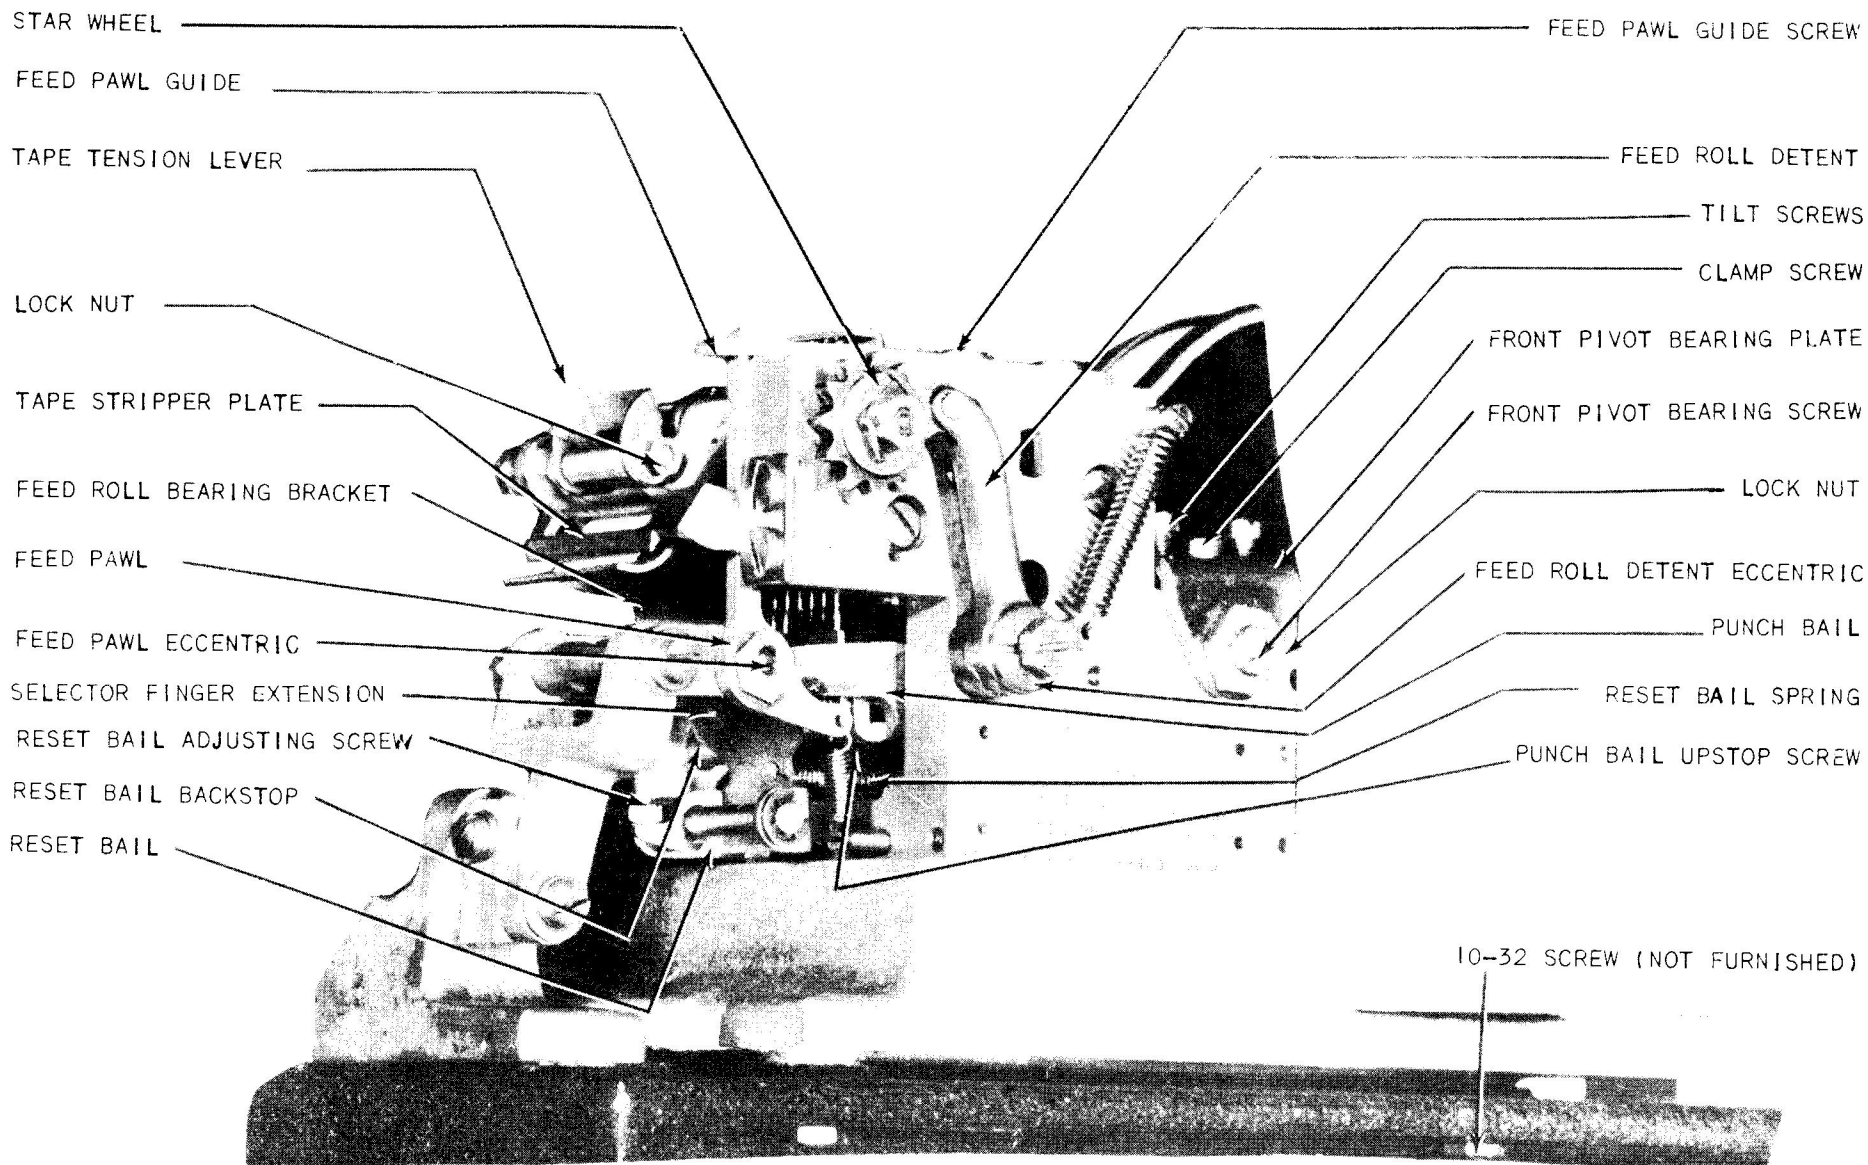

FIGURE 1
For the purpose of this specification, the front refers to the side on which the feed roll star wheel is mounted (Figure 1).
The punch bail should have some end play, not over .005", on its pivot bearing screws. Adjust by means of the front and rear bearing screws. See Figures 1 and 3 for location of parts.
There should be some clearance, not over .010", between the upper edge of the tape stripper plate and the feed roll. Check throughout a complete revolution of the feed roll. To adjust, position the stripper plate by utilizing its elongated mounting holes. See Figure 1 for location of parts.
insert the 73517 feed roll positioning gauge in the punch block guide slot so that the projection on the gauge stops against the feed hole punch. The position of the feed roll should be such that a pin on the feed roll lines up with the center hole of the gauge. To adjust, position the feed roll by means of the feed roll detent eccentric (Figure 1). Locate the eccentric so that the high part is toward the left.
i. FEED PAWL ECCENTRIC - PRELIMINARY (FIGURE 1)
(1) Back off the punch bail upstop screw (Figure 1).
(2) For fully perforated tape: Loosen the lock nuts on the punch bail link and adjust the length of the link so that when the LETTERS combination is selected and the unit is operated under power, the LETTERS combination will be perforated and the feed holes will be just punched cleanly. Tighten the lock nuts.
(3) For chadless tape: Loosen the lock nuts on the punch bail link and adjust the length of the link so that when the LETTERS combination is selected and the unit is operated under power, the feed holes will be punched cleanly in the tape. (By cleanly is meant a well-defined hinged lid with no fibrous edges and no appreciable tear at the hinged portion of the feed hole lid. A slight tear is permissible at the hinged portion of the code perforations.)
With the punch bail in its extreme upper position, there should be .002" to .006" clearance between the upstop screw and the bottom plate of the punch block. To adjust, loosen the upstop screw lock nut and turn the upstop screw. Tighten the lock nut. See Figures 1 and 3 for location of parts.
n. RESET BAIL ADJUSTING SCREW (FIGURES 1 and 3)
o. RESET BAIL BACKSTOP ECCENTRIC (FIGURE 1)
p. RESET BAIL SPRING TENSION (FIGURES 1 and 3)
w. FEED ROLL DETENT - FINAL (FIGURE 1)
x. FEED PAWL ECCENTRIC - FINAL (FIGURE 1)
y. FEED PAWL GUIDE (FIGURE 1)